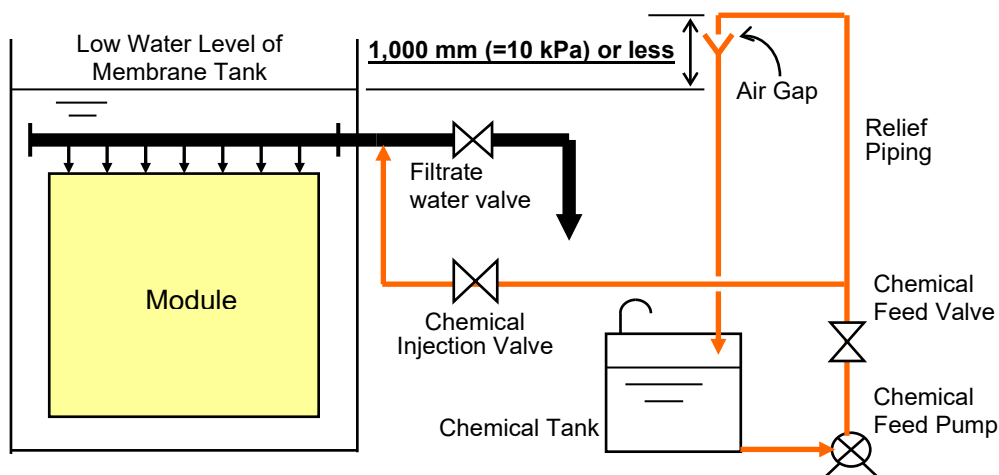

Fig.VIII-4 Chemical Cleaning with the Chemical Feed Pump and Relief Piping
c. Chemical cleaning with the chemical feed pump and relief piping (Fig.VIII-4)